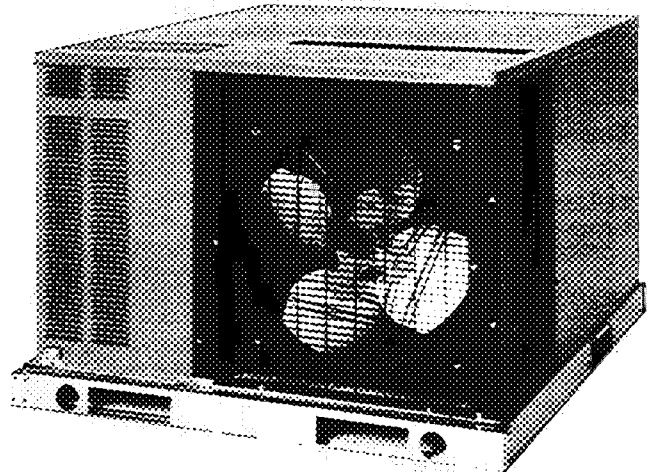

Fig. 1 — Unit 658A With Optional Base Rail Shown
1. Read and become familiar with these installation instructions before installing this unit (Fig. 1).